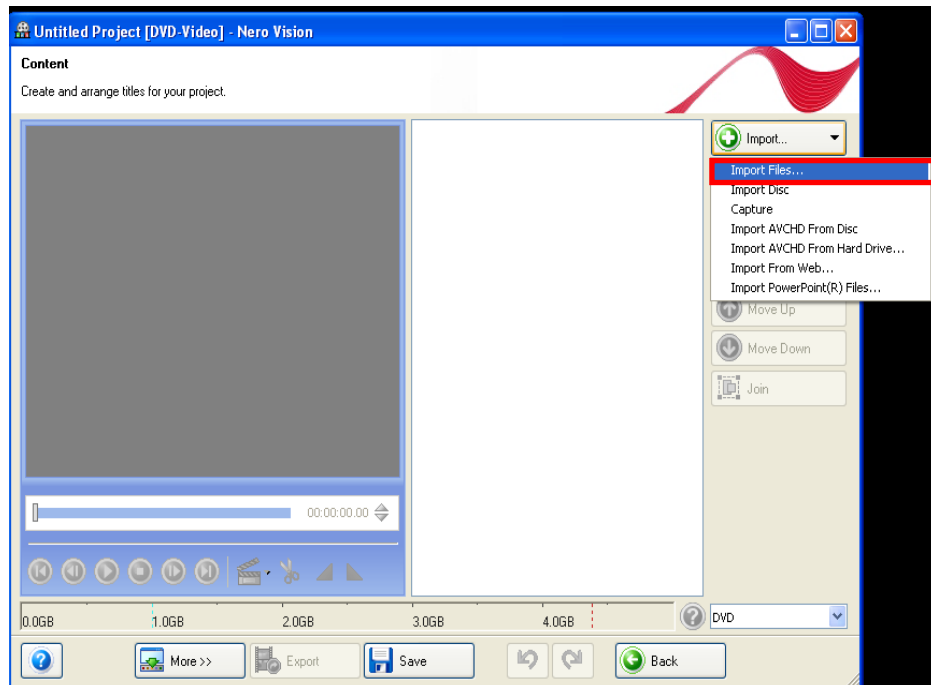

Figure 166. AAR – Select Import Files
4. Click on [IMPORT], and select [IMPORT FILES] (Figure 166).